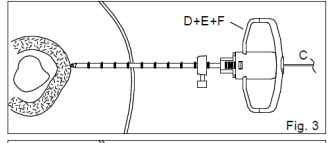

Fig. 3
**FIG. 3** Withdraw the Anesthesia Needle (A), while holding the Guide Wire (C) firmly against the bone. Place the assembled Cutting Cannula with Grooved Stylet and optional Handle (D+E+F) over the Guide Wire (C).